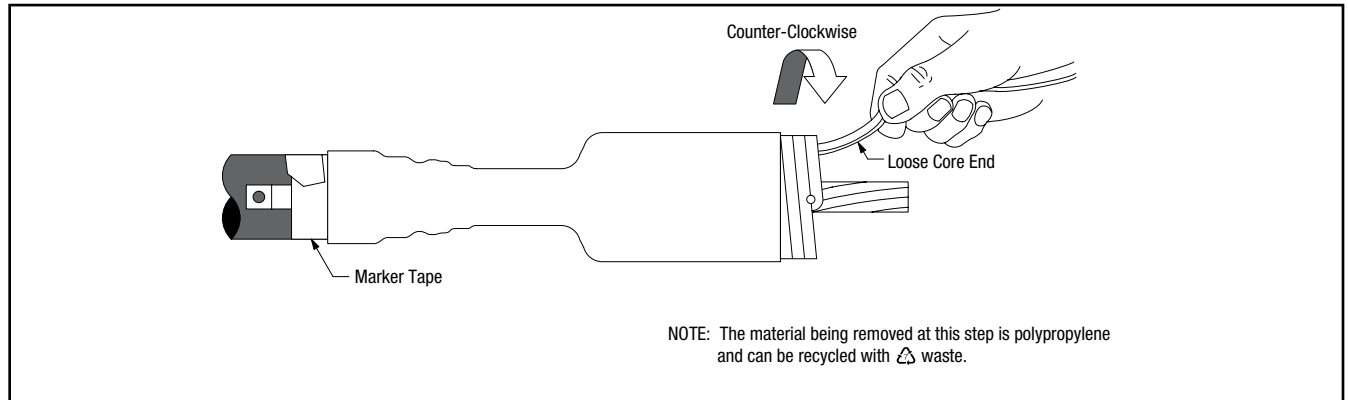

Figure 5
- 4.3 Slide termination onto cable (loose core end extending out toward cable lug end), aligning base with previously applied marker tape (*Figure 5*).
- 4.4 Remove the core. Pull while unwinding, counter-clockwise, starting with the loose end (*Figure 5*). Make sure the termination body (not the core) is butted up to the edge of the vinyl tape marker previously applied (*Figure 5*).